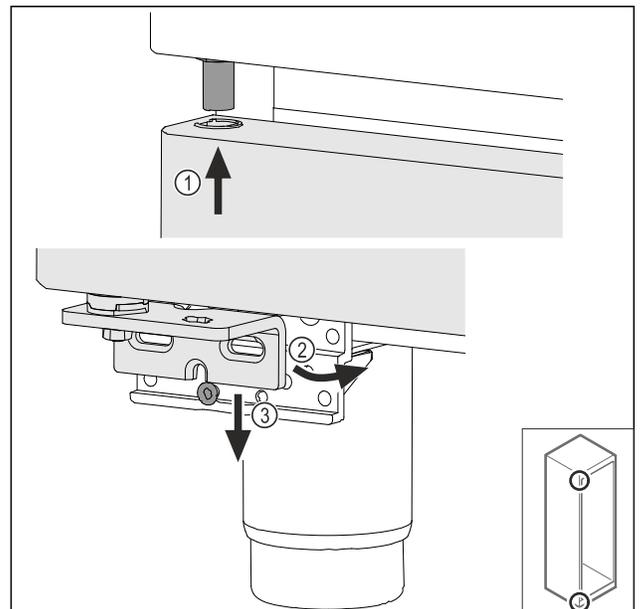

Fig. 45
- ▶ Feed in the door slightly tipped at the top Fig. 45 (1), align the door straight Fig. 45 (2) and fit the swap bearing blow screw Fig. 45 (3) at the bottom.